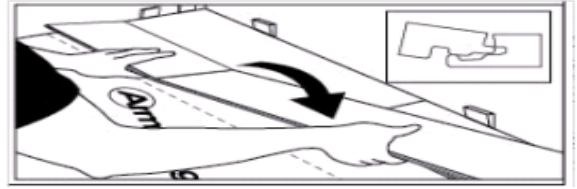

Fig. 13
11. Continue installing full boards in the second row by angling the short end of the next board in the row to lock into the previous board (Fig. 13). Position the board so that the long side of the board is close to boards in the previous row and overlapping the groove of the boards in the previous row.